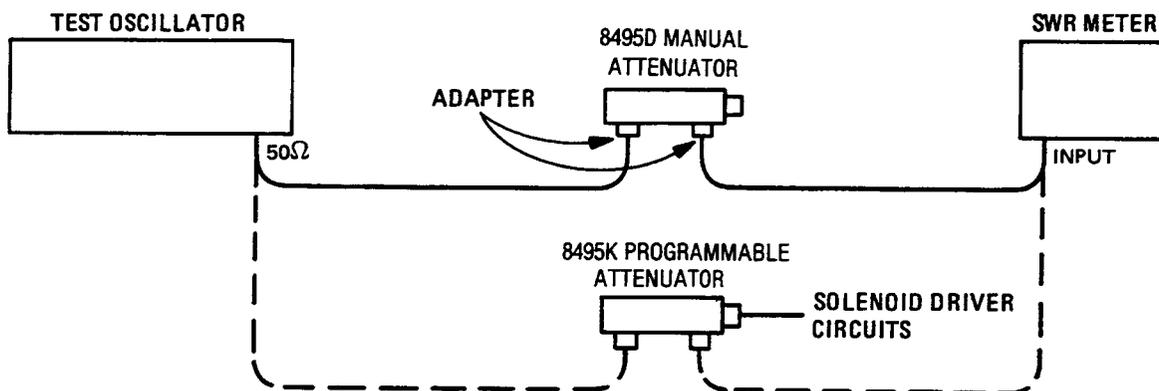

Figure 4 Operator's Check Setup
1. Connect equipment as shown in Figure 4 with the attenuator set to 0 dB.